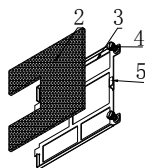
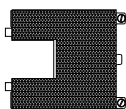

Figure 1
Figure 2
(Figure 1)
(Figure 2)
This chassis can be configured with one optical drive. Use 8PCS M3×6 pan head screws to fasten the optical drive on the butt-weld assembly (Figure 1), and use 2PCS M4×8 countersunk head screws the chassis side locking, and use 2PCS M3×6 truss head screw to fix it in the bottom of the integrated chassis(Figure 2).
2. Install the assembled fan module in the chassis (as per Figure 2), and use the screwdriver to tighten the truss head screw.
1. Place the dust filter on the bracket according to the Figure 1 and Figure 2, and open the door with the key;